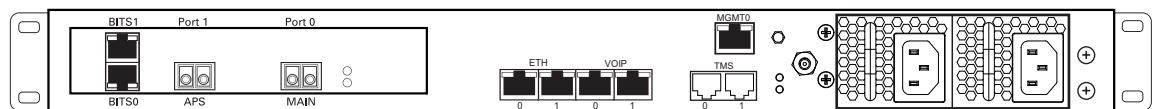

Figure 2.6 3200-STM1 Optical Interface to the PSTN
A 3200-STM-1, with one main and one backup OC3 or STM1 port enables connection to OC3/STM1 lines. See figure 2.6 on page 21. Refer to table 2.3 on page 21 for a listing of optical interfaces. The default SFP module for OC3/STM1 connection is SMF, intermediate reach, (SFP-OC3-IR1) 1310 nm with LC type connectors.
1. Connect a fiber optic cable between the Port 0 (Main) port and OC3/STM1 line, as shown in figure 2.6 on page 21.